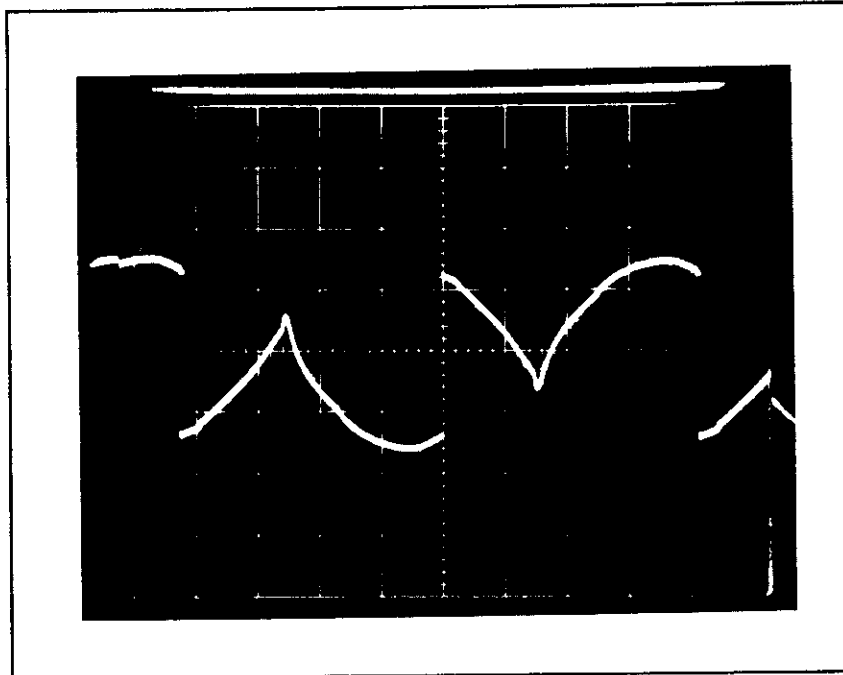

Figure 1: Triac conduction at idle, viewed at MT2.
- A) Observe normal triac idling conduction at MT2 (See Figure 1).